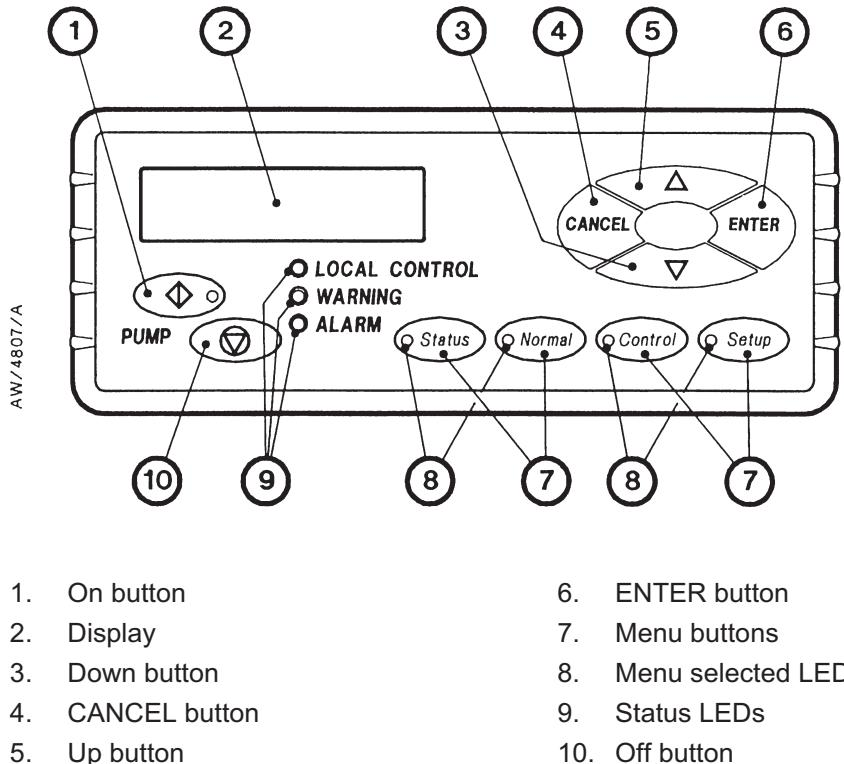
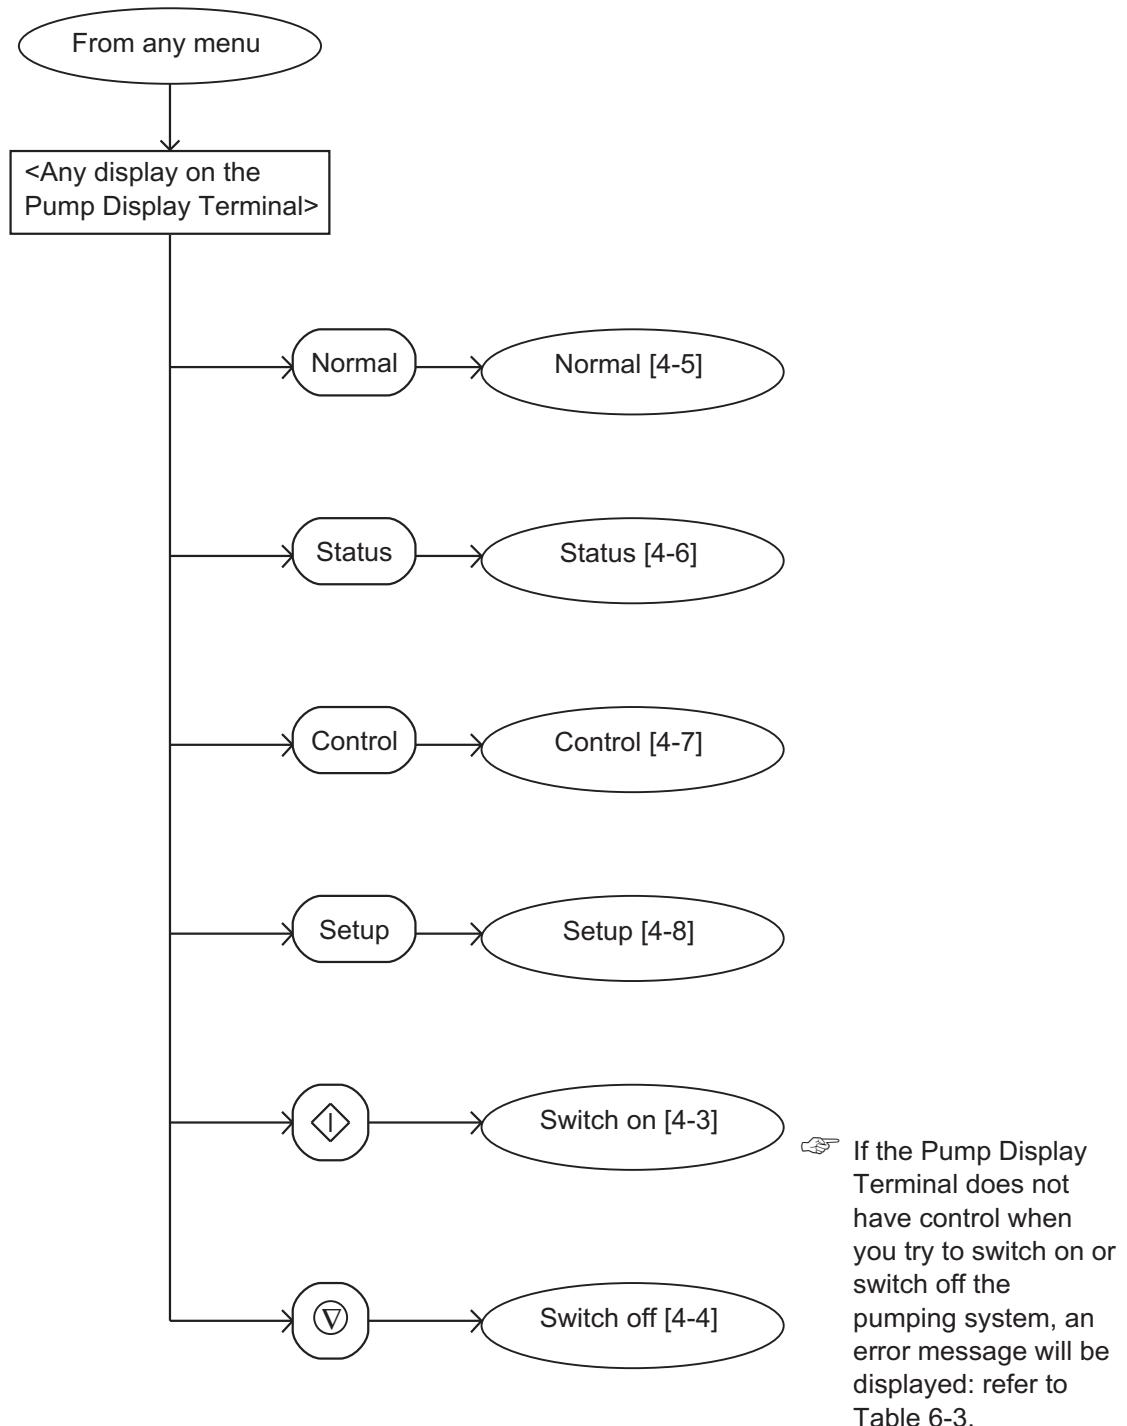
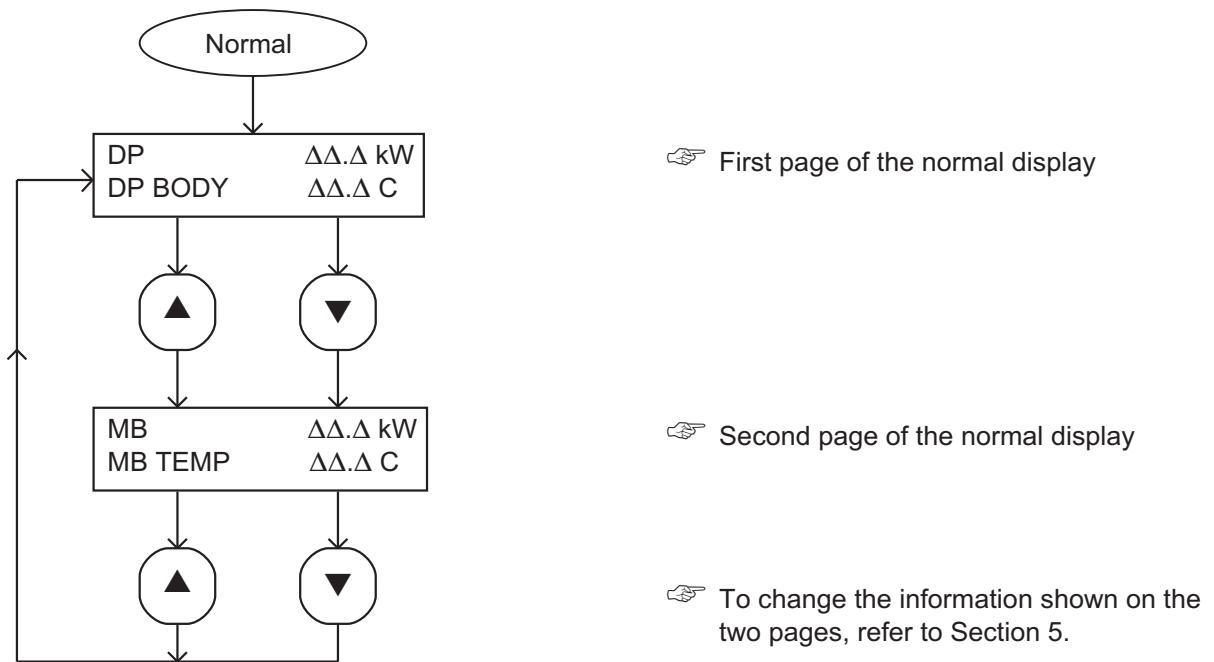

Figure 4-1 - Front panel of the pump display terminal
Figure 4-2 - Menu logic
Figure 4-5 - Normal menu
The menus used and the display messages shown on the Pump Display Terminal are described in the menu diagrams in Figures 4-2 to 4-19. The following symbols and conventions are used in the menu diagrams:
When you first switch on the iH system, the normal display is shown: see Figure 4-5. Refer to Figure 4-1. You can then press the On or Off button (1 or 10) or any of the four menu buttons (7) to enter the corresponding menu. Then, regardless of the current menu and display status, when you press any of these buttons, you exit the current menu and enter the corresponding new menu. Figure 4-2 shows this menu control logic.
In the menu diagrams in Figures 4-2 to 4-19, text shown without chevron brackets in the two-line display symbol is the actual text that will be shown on the display. In this text, the ' $\Delta$ ' symbol is used to show where a digit will be shown; the value of the digit depends on the sensor data or information you enter into the Pump Display Terminal.